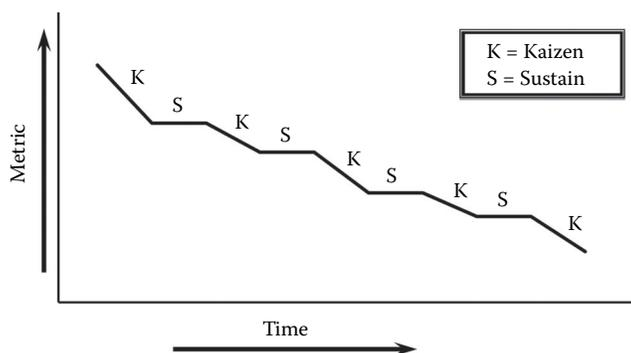

Figure 2.3 Kaizen process.
2. *Continuous Improvement (Kaizen)*. Problem solving focused on improving an existing program, system, or process (Figure 2.3) represents the process of Kaizen. After making an improvement, it is essential to have the ability to sustain that effort for a given period of time to demonstrate stability in the process. Once process stability has been established, Kaizen can begin again.